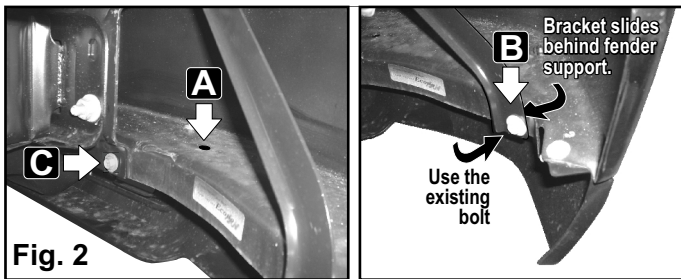

Fig. 2
2. Secure the mounting bracket to the vehicle. The installation uses 2 existing bolts and one supplied bolt (Fig. 2). Remove bolts "B" and "C" from the vehicle.